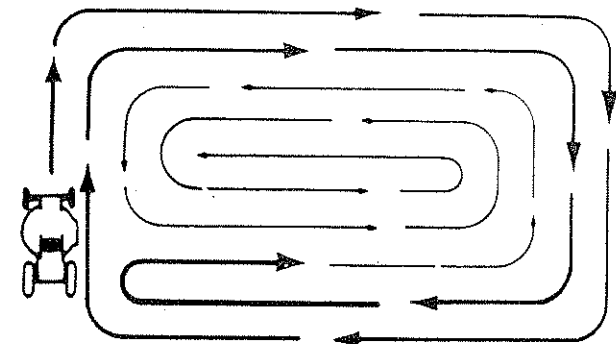
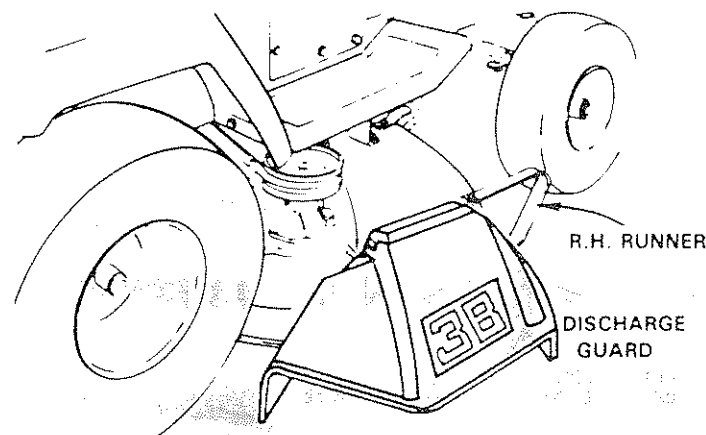

FIGURE 38
FIGURE 39
- Drive so that clippings are discharged onto the area that has been cut. Have the cut area to the right of the machine. This will result in a more even distribution of clippings and more uniform cutting. When mowing large areas (Fig. 38) start by turning to the right so that the clippings will be discharged away from shrubs, fences, driveways, etc. After *one or two* rounds, mow in the opposite direction making left hand turns until finished. If grass is extremely tall, it should be mowed twice. The first time cut relatively high. The second time to the desired height. The left hand side of mower should be used for trimming. Use the Runner on the right hand side as guide; the blade cuts approximately an inch outside the runner (Fig. 39).
Your mower has a flip-up Discharge Guard (Fig. 39) for door or gate clearance when held in raised position.